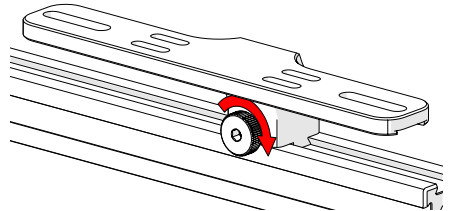

Fig. 211 - Tighten knob
2. Tighten the knob to lock the preamp bracket in place (*Fig. 211*).